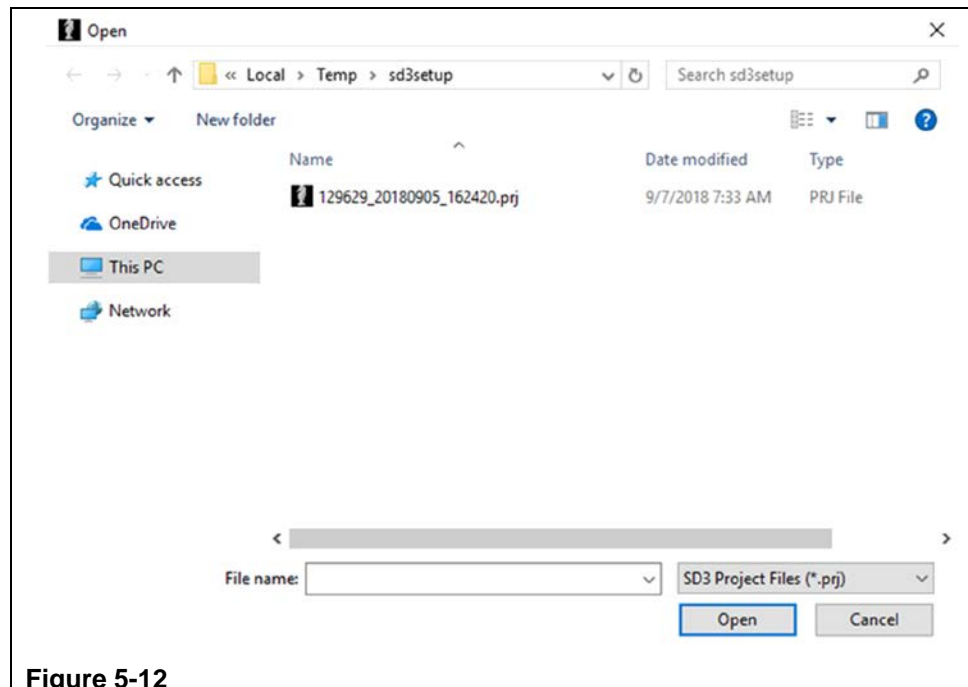

Figure 5-12
- Step 4. The program will examine the servo drive and display the programs that are held within it. Highlight the latest one and press the 'Open' button. (Refer to Figure 5-12)